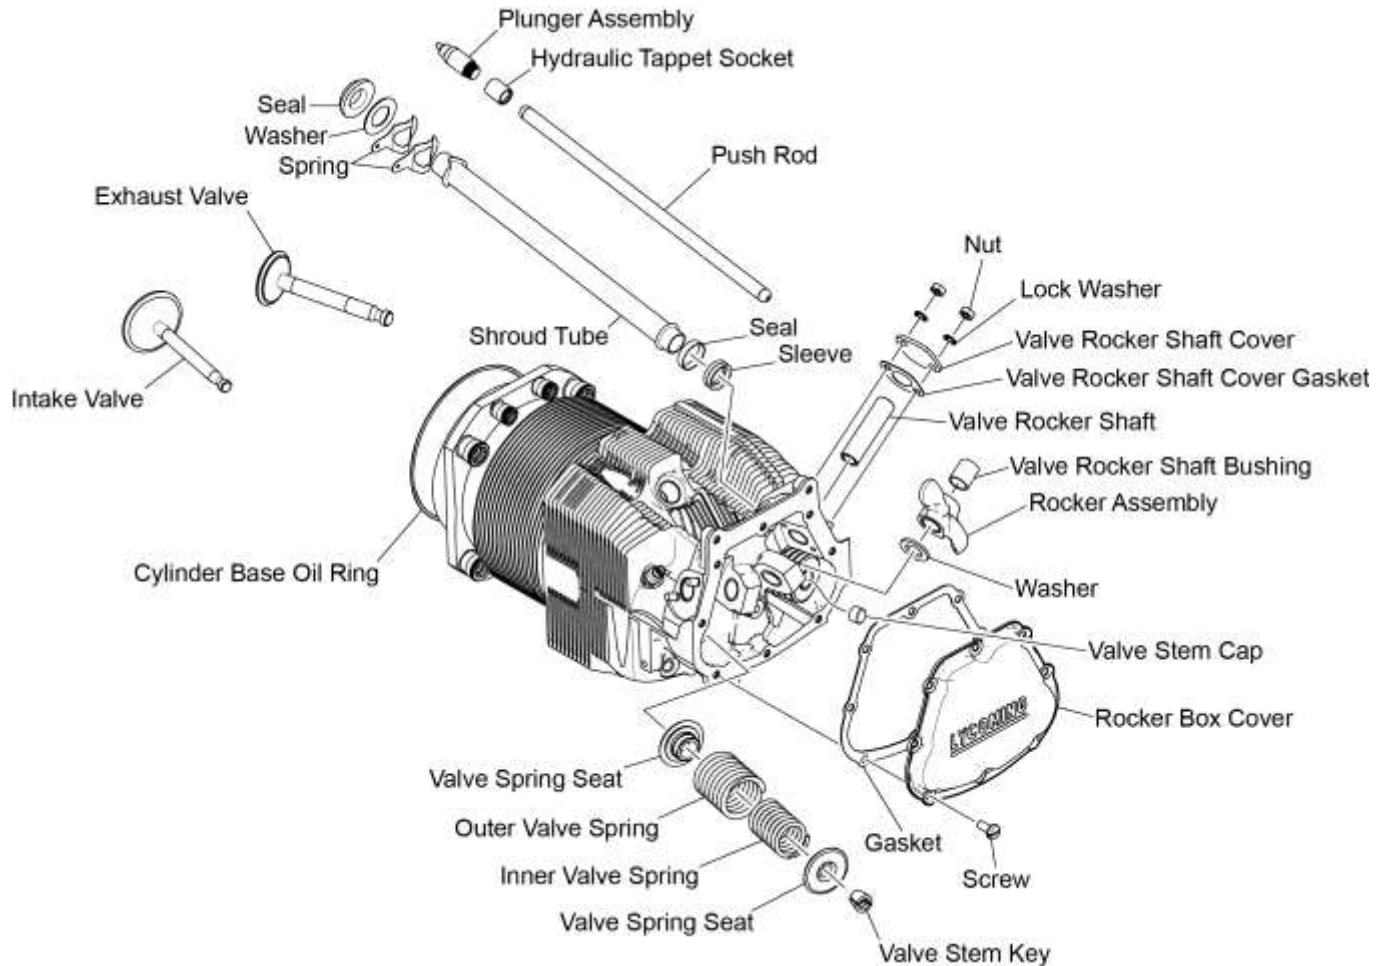

Figure 5
- (1) Disconnect the battery.
- (2) Make sure the engine is cool.
- (3) Remove the screws, rocker box cover (Figure 5) and gasket from the cylinder head. Discard the gasket.
- (4) Remove the nuts, lock washers, valve rocker shaft cover, and valve rocker shaft cover gasket. Discard the lock washers and valve rocker shaft cover gasket.
- (5) Remove the valve rocker shaft, valve rocker shaft bushing, rocker assembly, and washer.
- (6) Remove the valve stem cap from the exhaust valve.
- (7) Remove and examine the valve stem keys which tend to wear in uniform distinctive patterns. Replace worn or damaged valve stem keys. If the keys do not need to be replaced, install them in the same position from where they were removed.
- (8) Remove all of the push rods, shroud tubes, hydraulic tappets, plunger assemblies, sleeve, springs, washers, and seals from the engine cylinder.
- (9) Use a cloth dampened with mineral spirits to wipe the oil from the top surface of the valve spring seat on the exhaust valve (Figure 5).
- (28) If removed, examine and install acceptable plunger assemblies and hydraulic tappets in the correct location. Refer to the latest revision of Service Instruction SI-1011 for plunger assembly inspection guidelines.
- (29) Install all of the seals, washers, sleeve, springs, shroud tubes, and push rods (Figure 5) on the cylinder.
- (31) Install the rocker assembly, washer, and exhaust valve rocker shaft (Figure 5).
- (32) Install the valve rocker shaft cover with a new valve rocker shaft cover gasket, new lock washers and nuts.
- (33) Install the screws, rocker box cover with a new gasket on the cylinder head (Figure 5). Torque the screws per the Standard Torque Tables in the latest revision of the *Service Table of Limits - SSP-1776*.
- (34) Reconnect the battery.
- (35) Complete the “Operational Ground Check” in Chapter 72-00.